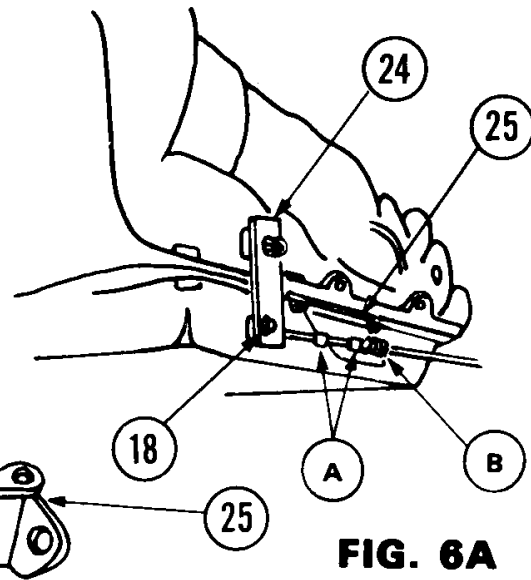
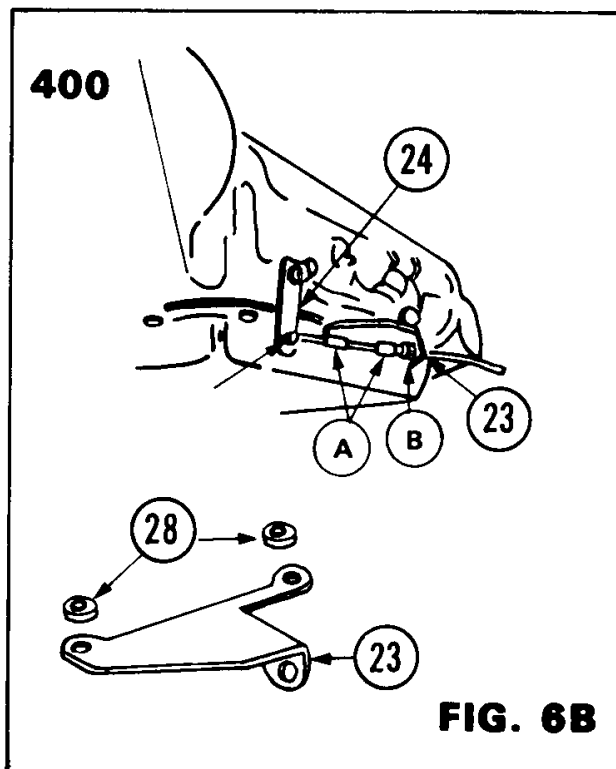

FIG. 6A
FIG. 6B
9. Remove the two center oil pan bolts from the left side of the transmission and install a cable bracket #23 or #25 (See Figure 6A or 6B). The bracket for the TH-400 must be used with two spacers #28 between the bracket and oil pan (See Figure 6B). In some cases it may be necessary to use the two spacers for the TH-350 for better positioning of the cable bracket. If the transmission has a cast aluminum oil pan the spacers may not be necessary. Use the two $\frac{5}{16}$ " x $\frac{3}{4}$ " bolts supplied to secure the bracket to the pan. Do not overtighten.